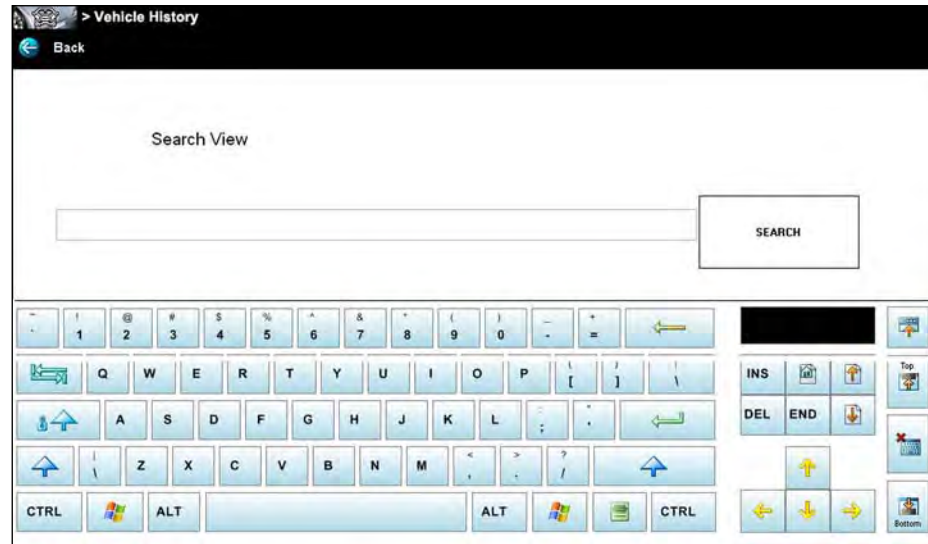

Figure 10-4 Sample Search dialog box
2. Enter the search criteria in the text field (Figure 10-4).